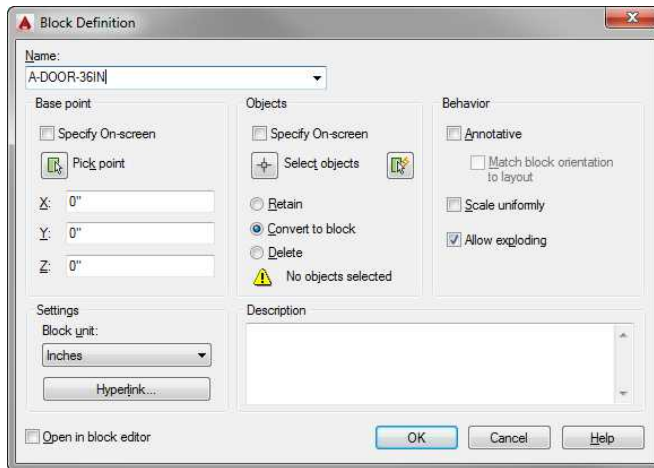

FIGURE 7.3: The Block Definition dialog box
2. Notice the flashing cursor in the Name text box. Type A-DOOR-36IN (A-DOOR-0915), but don't press ↵ (see Figure 7.3).